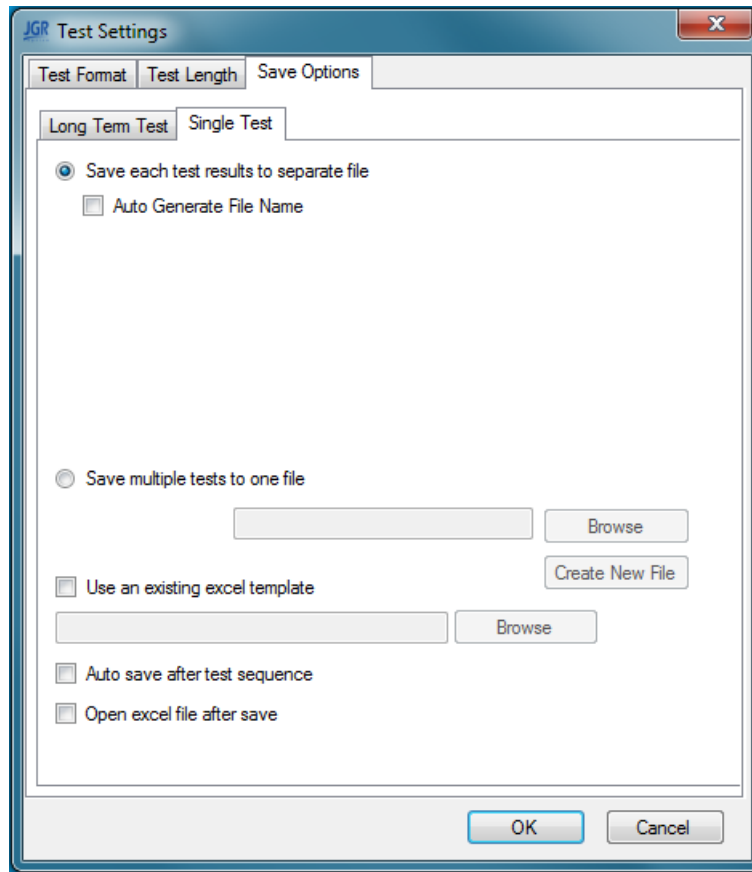

Figure 2.4: The Save Options tab for single tests.
- Under Save Options are two tabs labeled Long Term Test and Single Test (Fig. 2.4). For the purposes of this guide select Single Test.